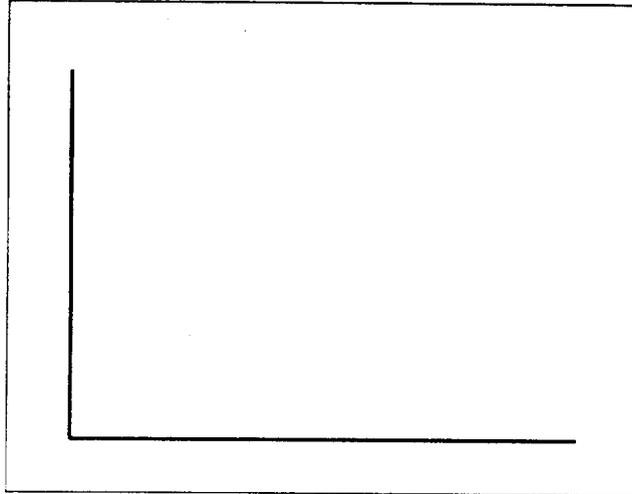

Figure 15. X and Y Deflection Adjustment Waveform
55. Adjust A1A2R220 X GAIN and A1A2R227 X POS to set the horizontal trace to the approximate position shown in Figure 15.
58. Adjust A1A2R120 Y GAIN and A1A2R127 Y POS to set the vertical trace to the approximate position shown in Figure 15.